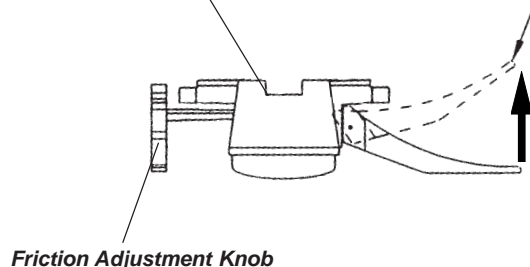

Figure M8: Bucket Seat Slider Base (Front View)
The adjustable bucket seats are included on all SunSport seating configurations for 180-200 Horizon® models. See Figure M7. To adjust, lift up on the metal release handle under the middle of the seat. Slide the seat forward or aft to the desired position. The seat will adjust approximately six (6) inches. See Figure M8.
2. Slide the seat completely forward or rearward (as needed to clear coaming/side pad) by using the lever located underneath the seat, at the center. See Figure M8.
3. Locate the lever on the left side of the buckets slider mechanism and pull to release the pin from the pedestal. This will allow you to rotate the seat. The seat may or may not allow a person to rotate the seat while being seated. See Figure M8.
1. Slide the seat completely forward or rearward (as needed to clear coaming/side pad) by using the lever located underneath the seat, at the center. See Figure M8.
2. Locate the lever on the left side of the buckets slider mechanism and pull to release the pin from the pedestal. This will allow you to rotate the seat. The seat may or may not allow a person to rotate the seat while being seated. See Figure M8.
4. Position the seat forward or aft according to the needs of the individual by using the lever located underneath the seat, at the center. See Figure M8.